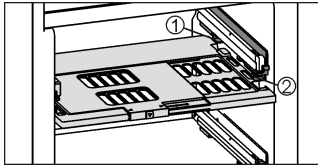

Fig. 7
- ▶ To insert the humidity control plate: Insert the cover mouldings of the plate into the rear holder Fig. 7 (1) from underneath and engage them in the holder Fig. 7 (2) at the front.